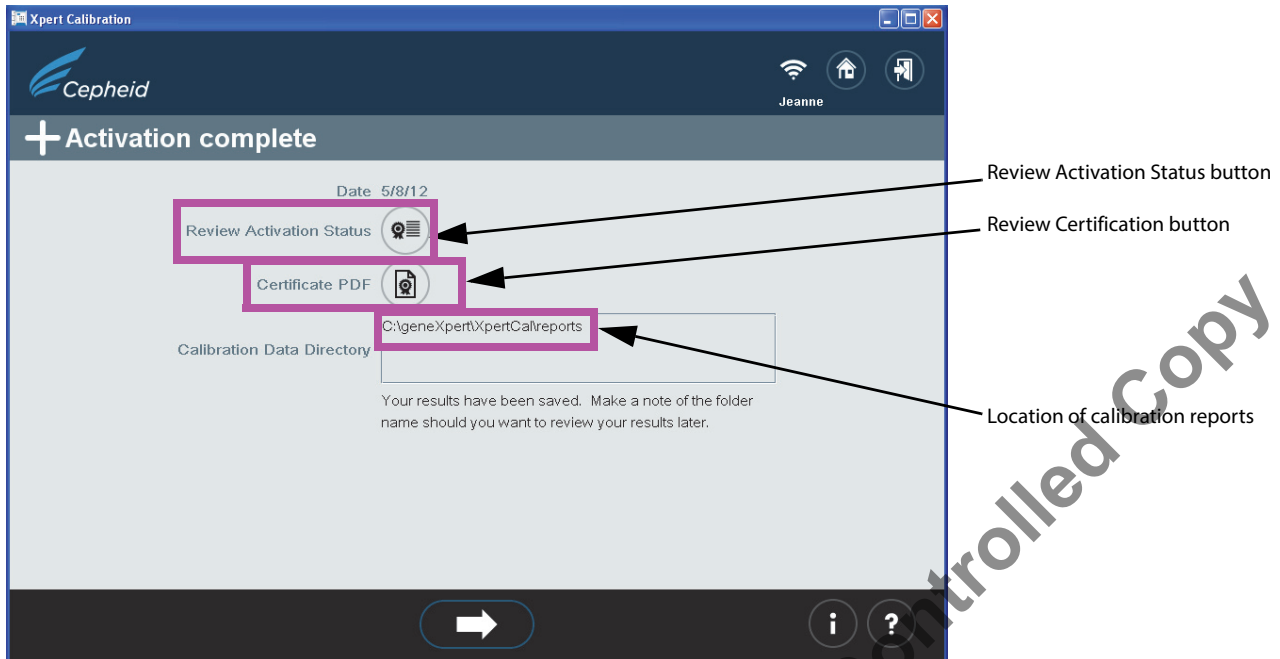

Figure 25. Activation complete screen
22. After all the activation codes have been applied to the successfully-tested modules (those green modules which appear with the plus symbols applied), the **Activation complete** screen will appear. See Figure 25. This screen shows the location of the Calibration Data report, which is available for review, if desired.
Note: To view your calibration results, see step 22 and Figure 25, which shows the file path and location of calibration results and the certification PDF and the Calibration Summary report.